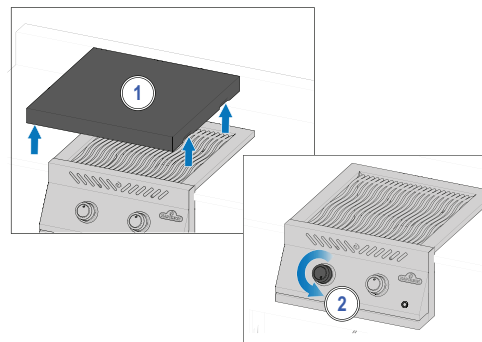

Fig. 2
4. If the burner will not ignite – turn burner control knob clockwise to the OFF position. Wait 5 minutes. Repeat step 2 and 3. **(Fig. 2).**